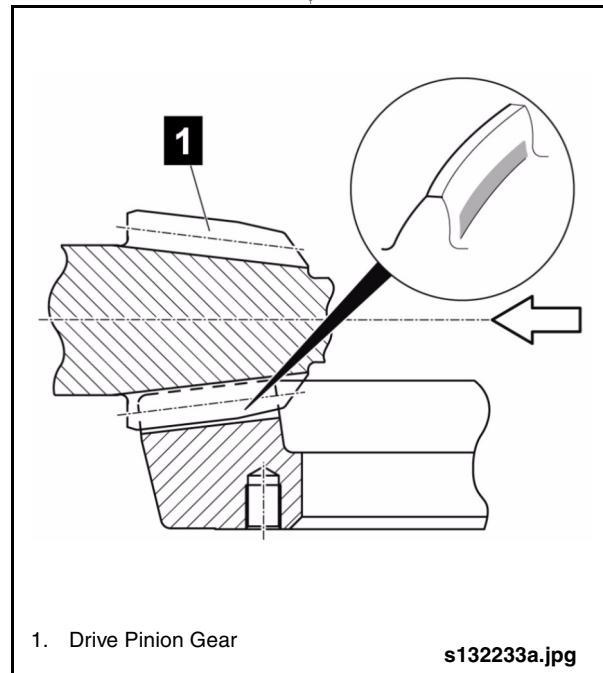

Fig. 2-75: Contact on Tooth Root
1. If there is contact on the tooth root, reduce the installation depth of the drive pinion by using thicker shims. See “Fig. 2-75: Contact on Tooth Root” on page 61.